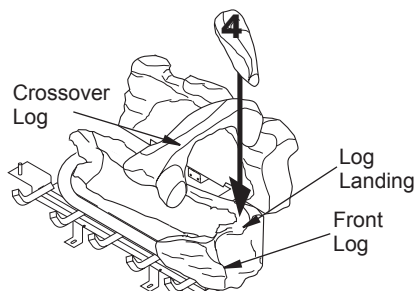

Figure 30 - Installing Log No. 4
4. Place log #4 (right log) onto log landing on right side of front log as shown in Figure 30.